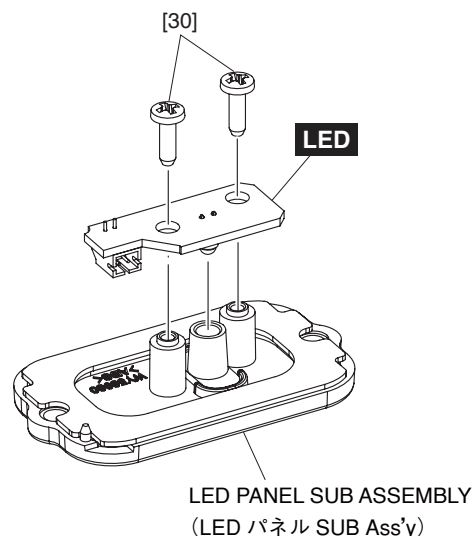

Fig. A-3 (図A-3)
A-2-3 Remove the two (2) screws marked [30]. The LED circuit board can then be removed from the LED panel sub assembly. (Fig. A-3)
A-2-3 [30] のネジ 2 本を外して、LED パネル SUB Ass'y から LED シートを外します。(図 A-3)